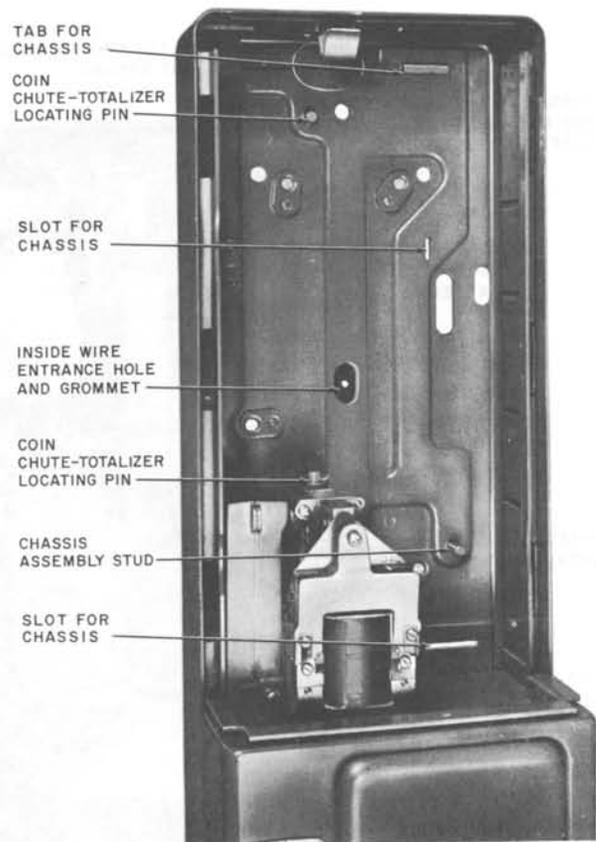
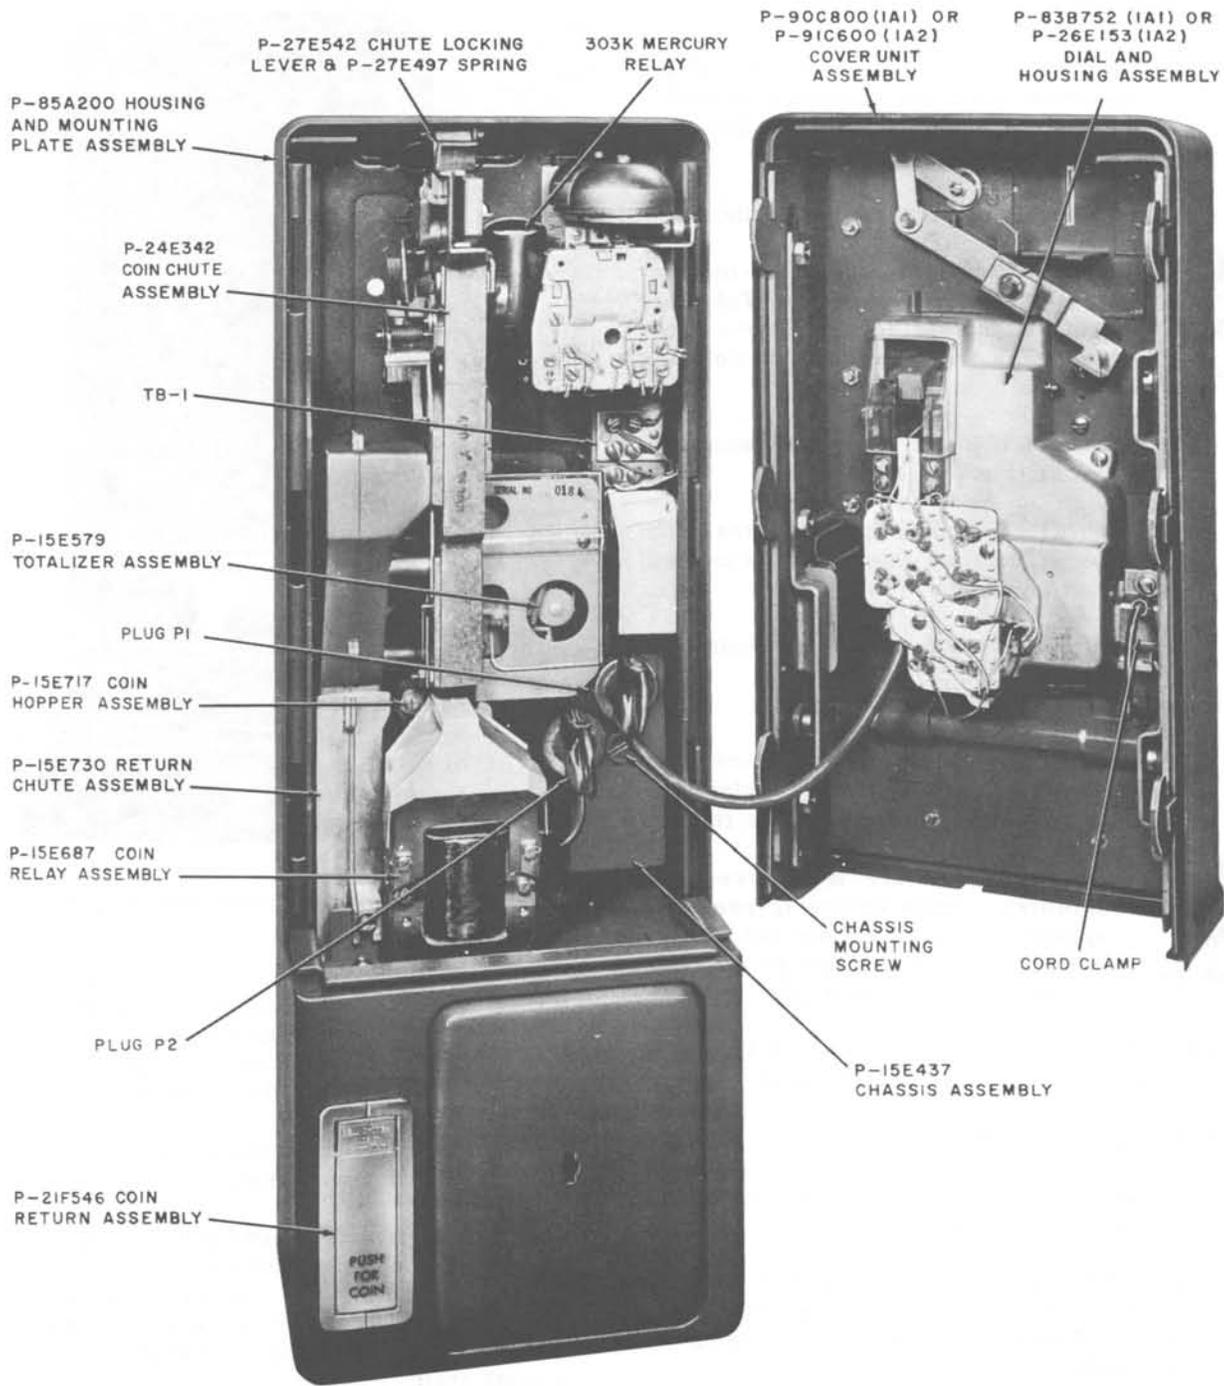

Fig. 8—P-85A200 Housing and Mounting Plate Assembly
Fig. 7—Assembly of Parts (Typical)
- (1) Unlock 29A lock.
- (2) Release locking mechanism with 719A tool by turning tool 1/8-turn counterclockwise. See Section 506-326-100 for illustration of 719A tool.
- (3) Slide cover forward about 3 inches to obtain access to plug P1.
- (4) Disconnect plug P1 (Fig. 7) by pulling straight out as cover is carefully lifted off.
- (1) Disconnect plug P2 (Fig. 7).
- (2) Release chute locking lever and spring.
- (3) Lift spring out of groove in coin chute.
- (4) Tilt top of coin chute forward and lift out.
- (1) Place assembly on pins located on rear of hopper assembly and back of housing (Fig. 8).
- (1) Remove coin chute-totalizer assembly (4.03).
- (2) Disconnect black and yellow leads from coin relay and carefully pull leads through guide hole on coin hopper.
- (3) Loosen chassis mounting captive screw (Fig. 7).
- (4) Pull chassis assembly out at bottom and slide down to remove.
- (1) Slide chassis under tab (Fig. 8).
- (2) Seat chassis tabs in slots.
- (3) Tighten chassis mounting captive screw (Fig. 7).
- (4) Replace black and yellow leads on coin relay after threading through hole in hopper. Connect yellow lead to terminal G and black lead to terminal 3 of coin relay.